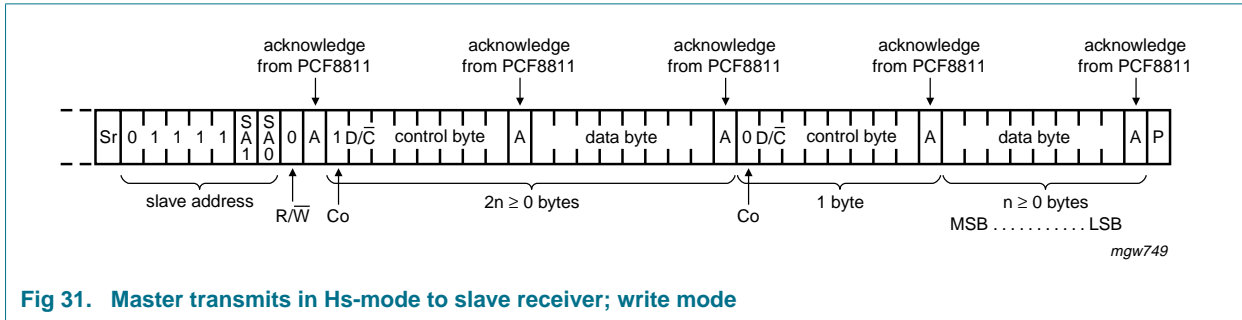

Fig 31. Master transmits in Hs-mode to slave receiver; write mode
A write sequence after the Hs-mode is selected is shown in Figure 31. The sequence is initiated with a START condition (S) from the I²C-bus master which is followed by the slave address. All slaves with the corresponding address acknowledge in parallel, the remainder will ignore the I²C-bus transfer.
After the acknowledgement cycle of a write (\overline{W}), one or more command words will follow which define the status of the addressed slaves. A command word consists of a control byte, which defines continuation bit Co and D/\overline{C} , plus a data byte; see Figure 31 and Table 9.